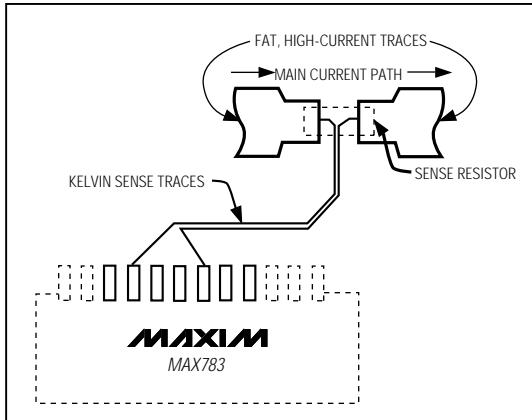

Figure 5. Kelvin Connections for the Current-Sense Resistors
Since the sense resistance values (e.g.,  $R1 = 25m\Omega$  for  $I_{OUT} = 3A$ ) are similar to a few centimeters of narrow traces on a printed circuit board, trace resistance can contribute significant errors. To prevent this, Kelvin connect the CS\_ and FB\_ pins to the sense resistors; use separate traces not carrying any of the inductor or load current, as shown in Figure 5. Run these traces parallel at minimum spacing from one another. The wiring layout for these traces is critical for stable, low-ripple outputs (see the *Layout and Grounding* section).
2. Keep the Kelvin-connected current-sense traces short, close together, and away from switching nodes. See Figure 5. Important: Place the current-sense resistors close to the IC (less than 10mm away if possible).